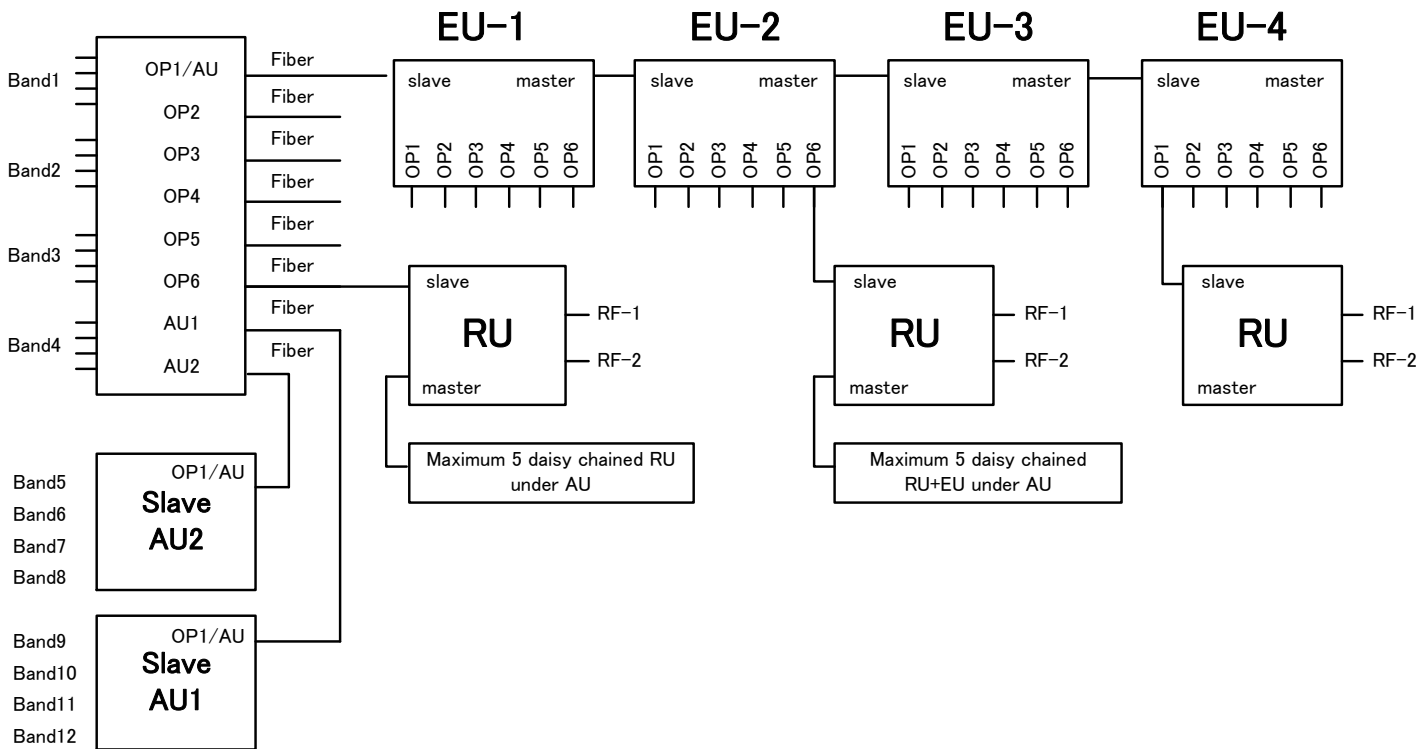

Figure 1-3 Networking Layout
The CrossFire has a number of different networking layouts shown as Figure 1-3:
- In smaller systems, the AU and RU can be directly connected without the EU, as shown in Figure 1-3.